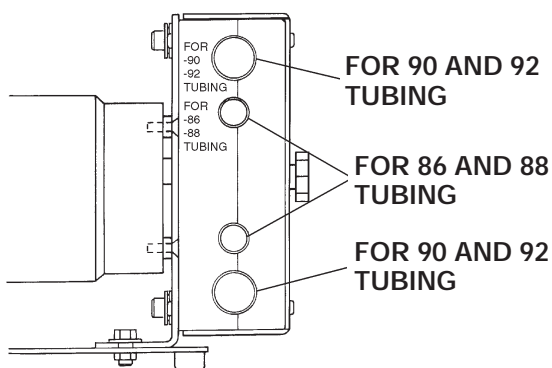

Figure 3. TUBING PORTS
7. Wrap the tube around the rotor assembly and position in the proper ports for the tube size being used (see Figure 3). Outer ports are for B/T® 90 and B/T® 92 tubing. Inner ports are for B/T® 86 and B/T® 88 tubing.